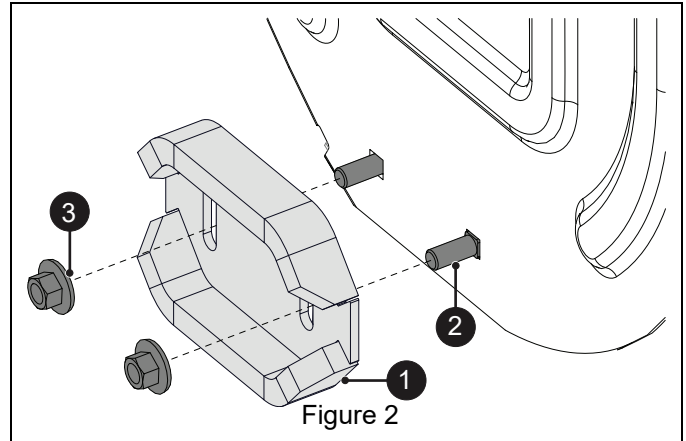

Figure 2
Check the contents of your kit for the parts listed below. Also see Figure 2.
1. Position skid shoes (item 1) and retain using two 3/8" x 1" round head square neck bolts (item 2) and two 3/8" washer nuts (item 3) on each side. Do not fully tighten until adjustment is complete. See Figure 2.